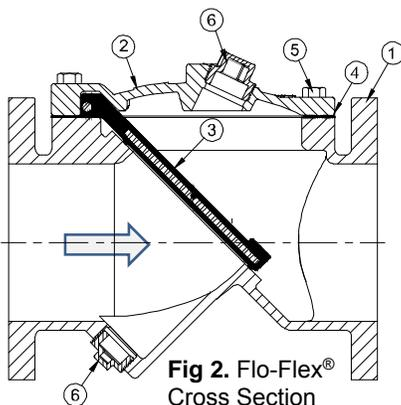

Fig 2. Flo-Flex®
The Flomatic® Flo-Flex® Swing Check Valve is constructed of rugged Ductile Iron with a rubber encapsulated valve disc. The rubber coated valve disc is the only moving part assuring long life with minimal maintenance. The general details of construction are illustrated in Fig. 2. The body (1) is flanged for connection to the pipeline with an access cover (2). The disc (3) is retained by the cover.
<ol style="list-style-type: none"> <li>Relieve pressure and drain the pipeline. Refer to Figure 2 on page 2. Remove the cover bolts (5) on the top cover.</li> <li>Pry cover (2) loose and lift off valve body. 12" and larger valves have tapped holes in cover for lifting eyes.</li> <li>Remove disc (3) and inspect for cracks, tears or damage in rubber sealing surface.</li> <li>Clean and inspect parts. Replace worn parts as necessary and lubricate parts with FDA/NSF grease such as "Super Lube".</li> </ol>	<p>All parts must be cleaned. Gasket surfaces should be cleaned with a stiff wire brush in the direction of the serrations or machine marks. Worn parts, gaskets and seals should be replaced during reassembly.</p> <ol style="list-style-type: none"> <li>Lay disc (3) over seat with beaded seating surface directed down.</li> <li>Lay cover gasket (4) and cover (2) over bolt holes and disc hinge.</li> <li>Insert lubricated bolts (5) noting that the bolts in the hinge area are longer than the other cover bolts.</li> <li>Cover bolts should be tightened to the specifications shown in Table 2 (next page) during re-assembly.</li> </ol>